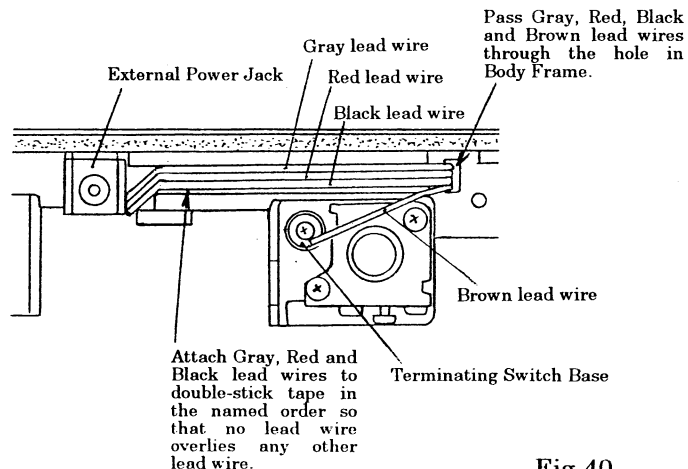

Fig.40
- Stick the double-stick tape to the Body Frame and as shown in Fig. 40, attach the Gray, Red and Black lead wires to the double-stick tape in the named order.